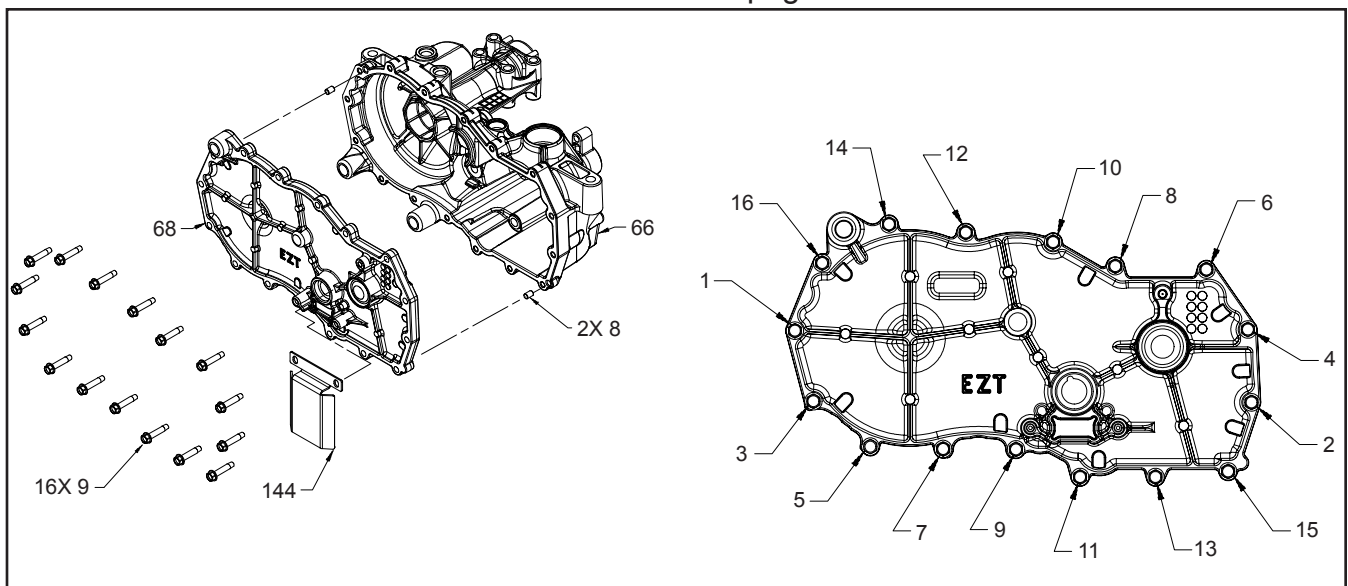

Figure 12. Side Cover
Refer to figure 12.
5. Remove the side housing screws (9) and belt deflector (144), if installed.
6. Pull the side housing (68), leaving the axle (49) and bull gear (46) assembled in the main housing. It may be necessary to use pry tools at the pry points to break loose the sealant (positions 1-16 and 4-6, Figure 12).
2. Install the locating pins (8), if not already installed.
3. Install the side housing (2). Use care not to smear the sealant bead.
4. Install the side housing screws (9) and belt deflector (144, if used). Refer to the screw tightening pattern in Figure 12 and torque specification in Table 8 on page 15.